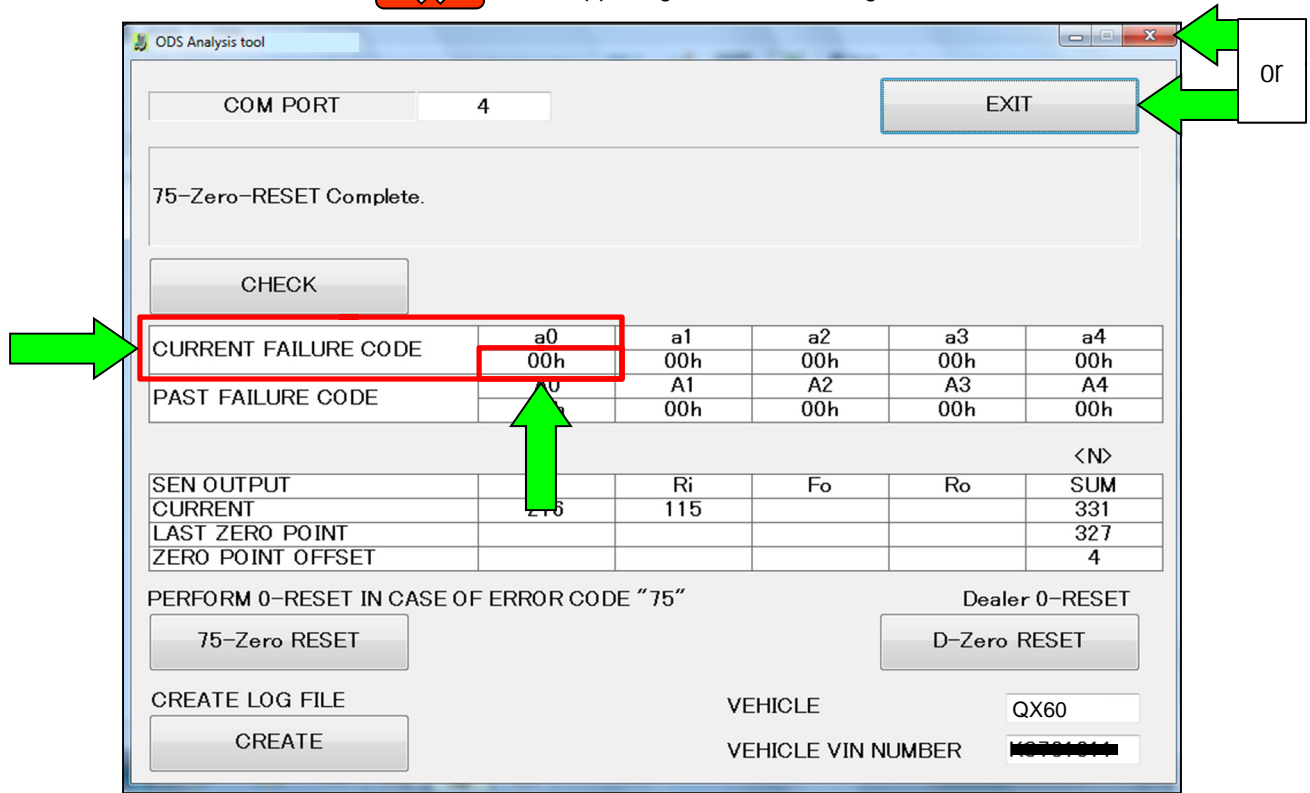

Figure 9
16. When the screen in Figure 9 displays, the 75-Zero reset process is complete.
17. Select either **EXIT** or the  in the upper right corner (see Figure 9).